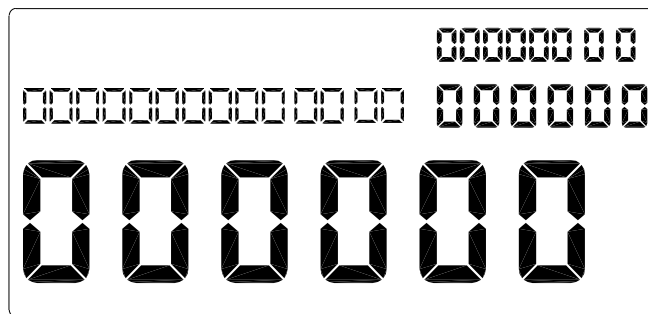

Figure 4. All Zeros Activated in the Display Fields
- All zeros appear in the four display value fields (see Figure 4)